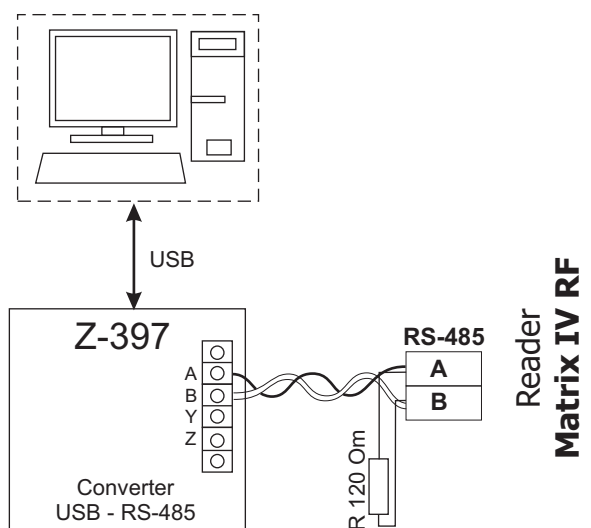

Рис.3 Connection via RS-485.
- When connecting via RS-485, one wire of the twisted pair is connected to A, and the other to B (see Figure 3).